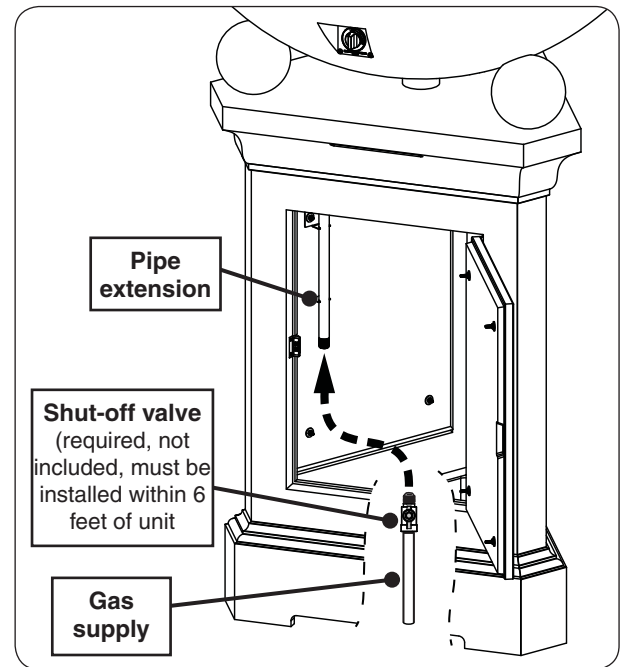

Fig. 31-1 Connecting to a gas line
2. Plumb the gas supply to the $\frac{1}{2}$ " pipe extension (that is mounted to the interior wall of the pedestal). See Fig. 31-1.